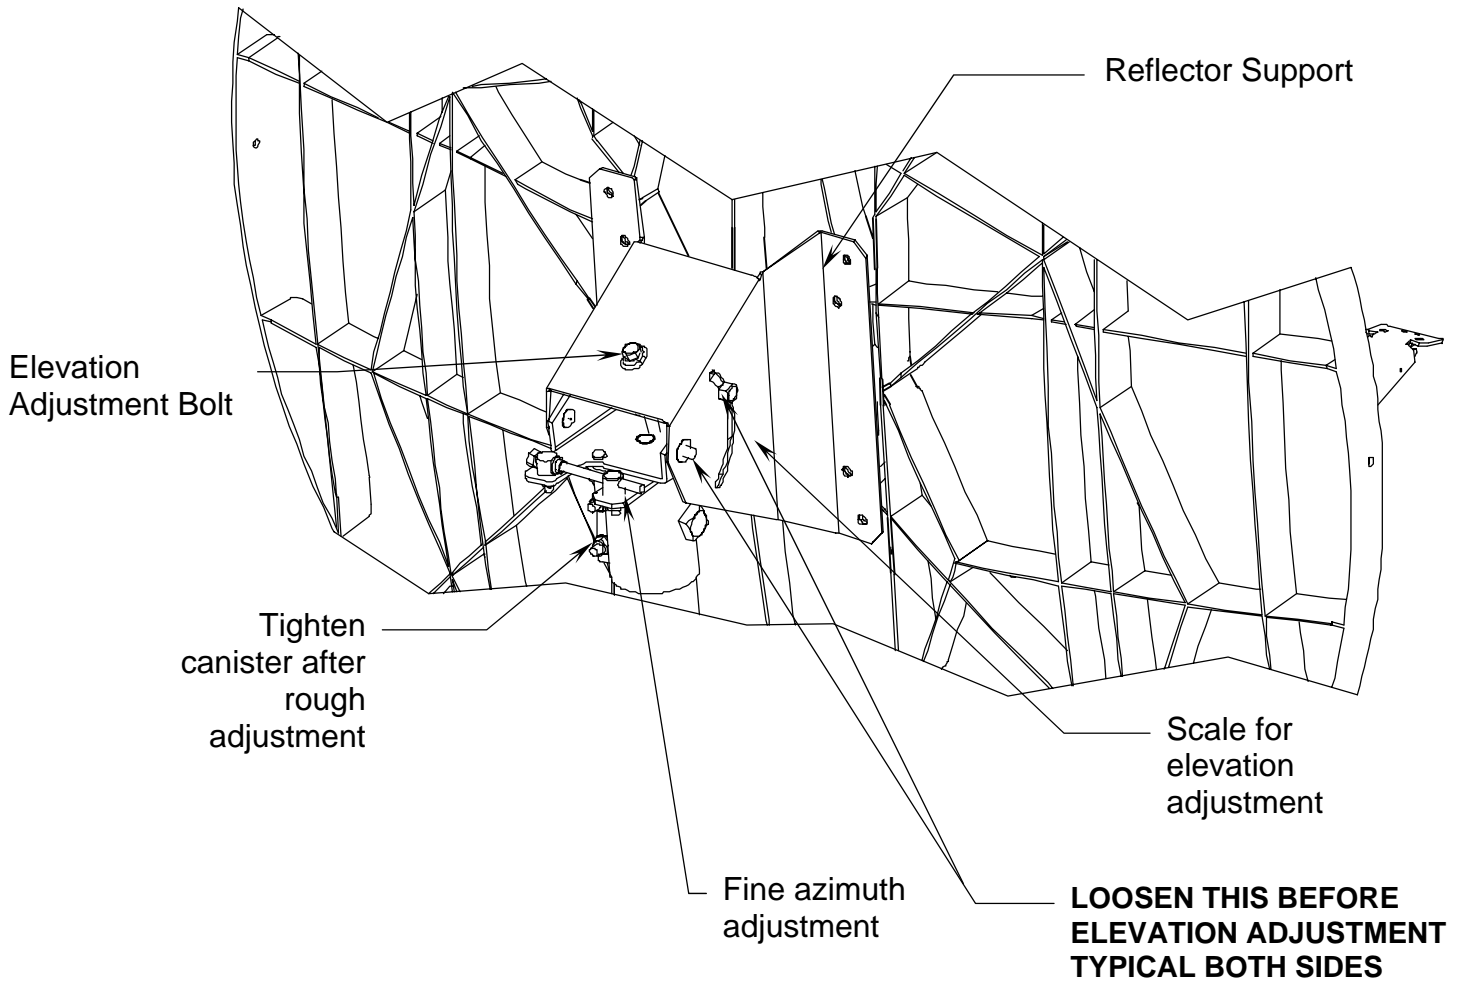

FIGURE 2.
The 1.2 meter reflector contains a 17.3° elevation offset look angle. Therefore, when the reflector aperture is perpendicular to the ground, the antenna is actually looking 17.3° in elevation. Refer to Figure 2.
STEP 1: **BEFORE ADJUSTING ELEVATION LOOSEN THE HARDWARE ON BOTH SIDES OF THE POSITIONER, REFER TO FIGURE 2 FOR LOCATION.** Adjust the reflector up or down in elevation by turning the 5/16" Bolt at the az/el positioner until the desired elevation is read on the side of the positioner. This scale is used for nominal readings and is accurate to ±2 degrees. ***Note: Elevation rod is for adjustment only, it is not intended to be part of the structural integrity of the assembly, tightening the elevation rod is not necessary.*** Snug the hardware at the side of the positioner.